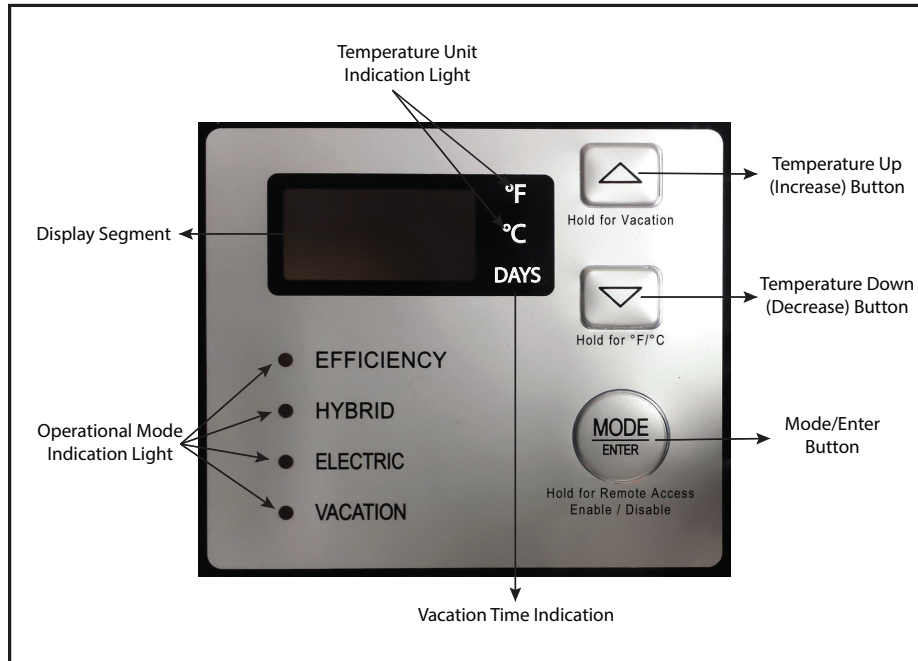

Figure 26 - User Interface Module (UIM) Display
- The water temperature setting can be adjusted by using the Up and Down buttons   on the UIM (User Interface Module). Using the up or down buttons, cycle through the available temperature set points until the desired temperature is displayed. The temperature setting will blink on the display; press the Mode/Enter button to confirm the selection (see figure 26 on page 19).
The water temperature can be adjusted from 95°F / 35°C to 150°F / 65.5°C. Use the Up and Down Buttons   on the front panel to set the desired temperature (figure 26, page 19). The setting temperature will blink on the display, press Mode/Enter button to confirm.
The operating modes can be changed sequentially by pressing the Mode/ Enter button (Figure 26, page 19). The Operation Mode Indication Light will turn on when the relevant mode is selected.